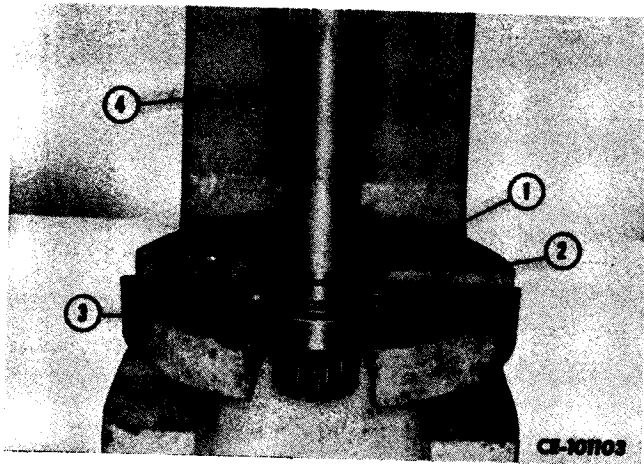

Figure 3-45
Install snap ring (2, Fig. 3-45) and a new hook-type seal ring (1) in their grooves in output shaft (4). Press shaft into bearing (3) with output end of shaft entering bearing and seating bearing against snap ring.